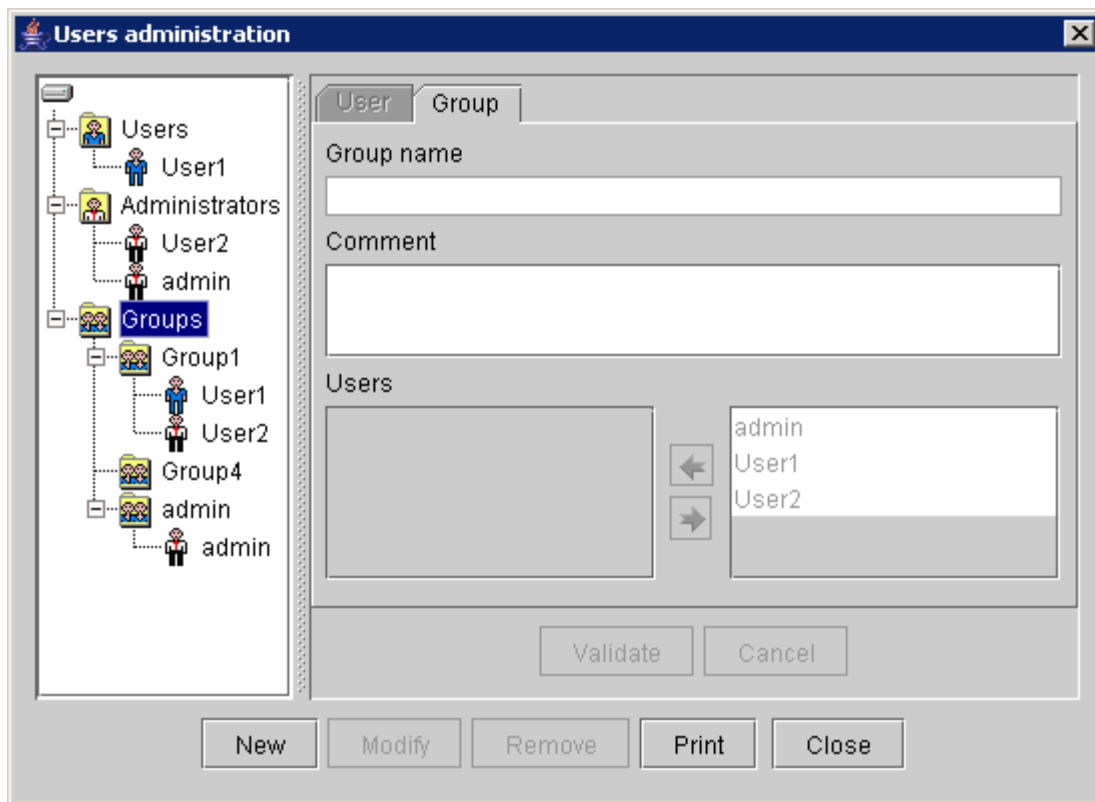

Figure 124 : Users group creation
- When the group is created, it is displayed in the Groups list (Figure 124).